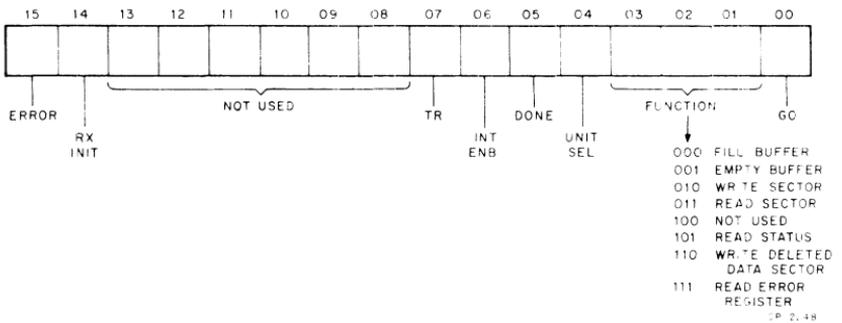

Figure 3 RXCS Format
**Command and Status Register (RXCS) (177170)** – The format for the RXCS register is shown in Figure 3. Bit descriptions are presented in Table 3. Loading the RXCS register while the RX01 is not busy and with bit 0 = 1 will initiate a function described in Table 3.
Data storage and recovery on the RXV11 system is accomplished by careful manipulation of the RXCS and RXDB registers according to the strict protocol of individual functions. The penalty for violation of protocol can be permanent data loss. Each of the functions are encoded and written into RXCS bits 1–3, as shown in Figure 3. Programming protocol for each function is described below.